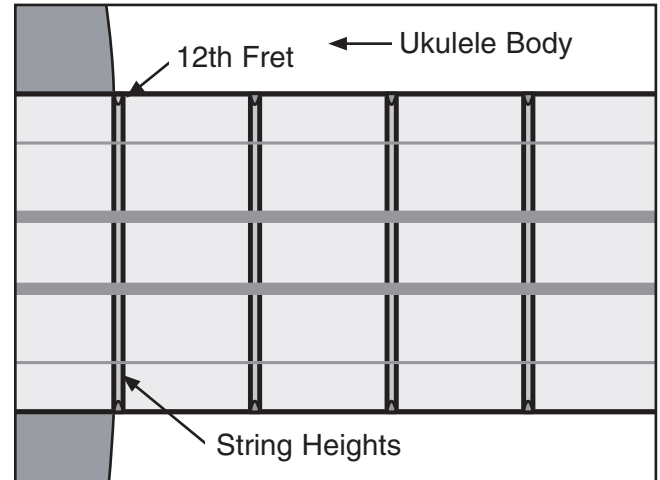

Figure 35. Correct 12th fret string heights.
2. Using a stack of three pennies (approximately $\frac{3}{16}$ "), measure the string heights at the 12th fret (see **Figure 35**).